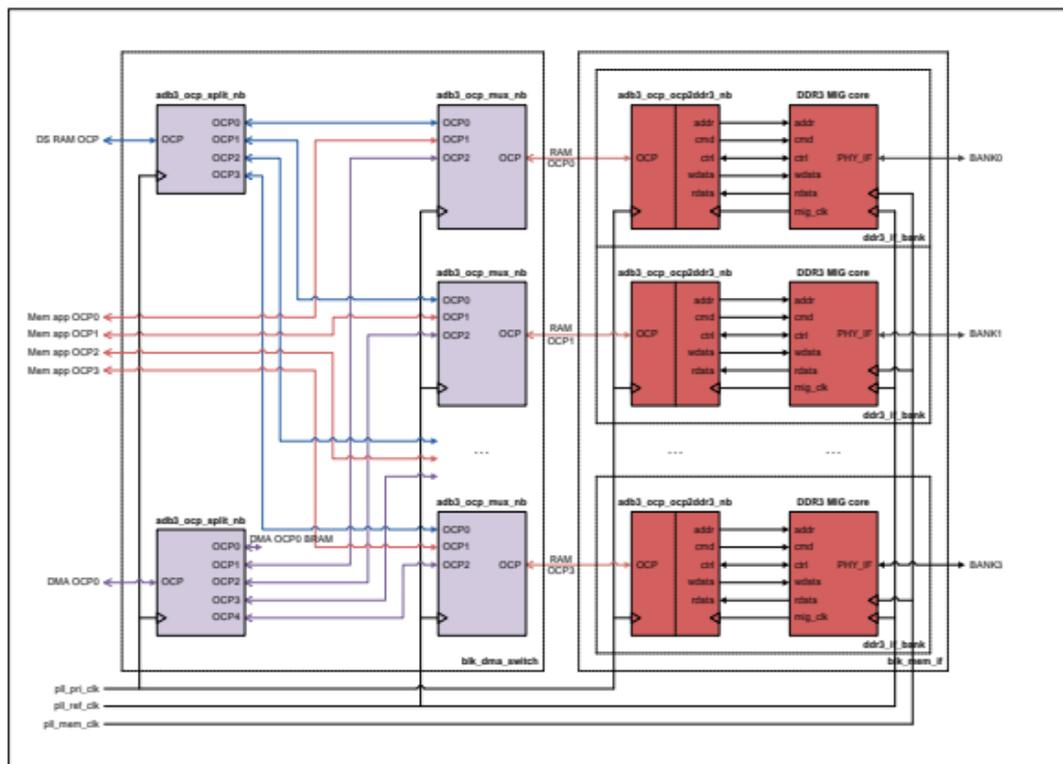

Figure 15: Uber Memory Interface Block Diagram
**Figure 15** shows the on-board memory interface block and its associated part of the **OCF switching block**.